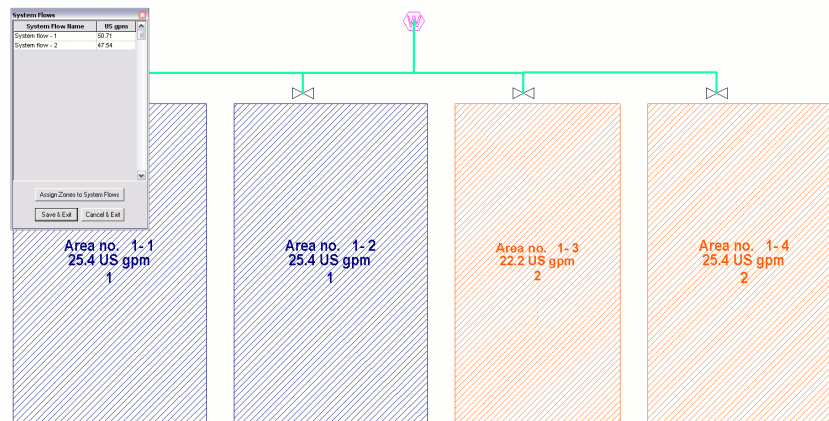

Figure 4-50
15. Now click on Area no. 1-3 and Area 1-4, then *Right-click/Assign to Sys Flow*. Make sure the “System Flow Number” has changed to 2. Click [OK]. See Figure 4-50.